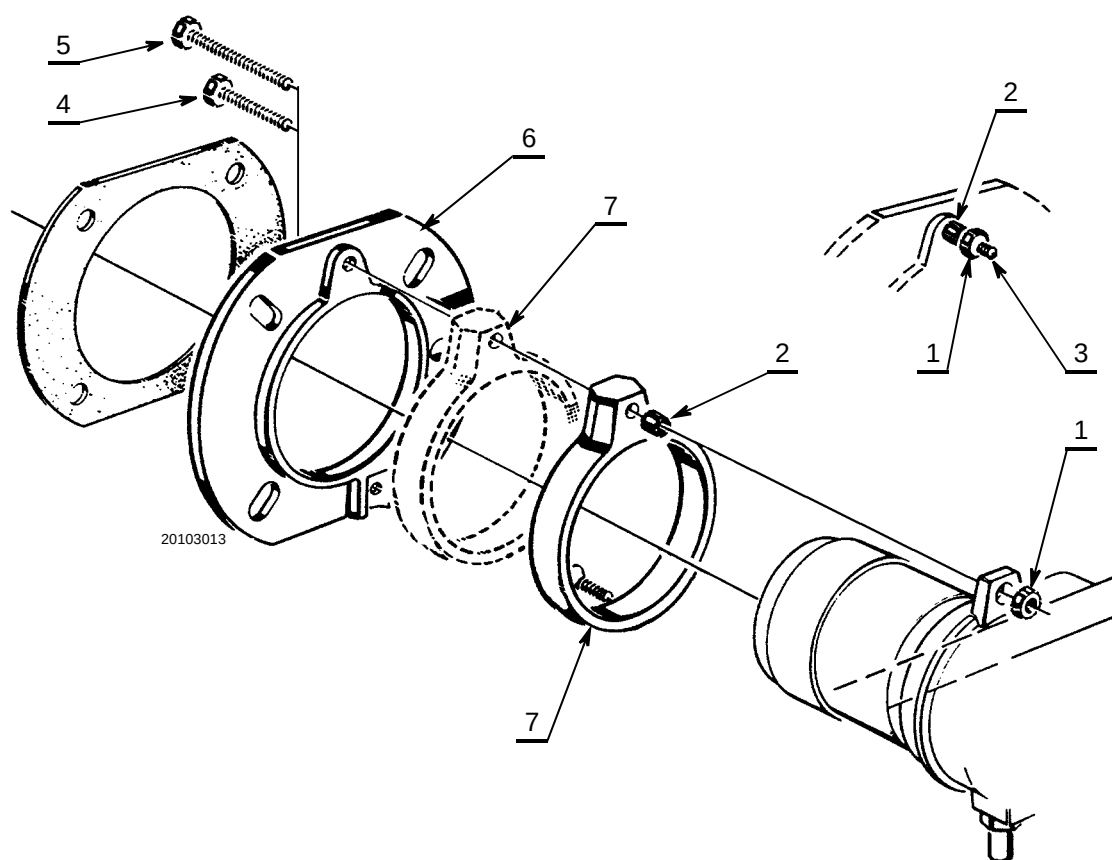

Fig. 3
- unscrew the nuts 1) and 2)(Fig. 3);